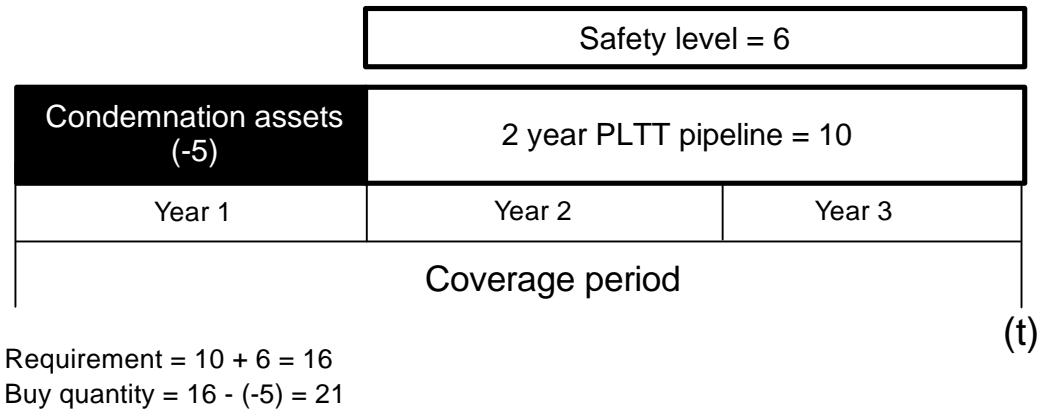

Figure 3-4
Figure 3-4 displays the model's treatment of condemnations for PLTTs shorter than the coverage period. The model treats these items the same as far as estimating a mean pipeline (average number broken) and the resulting spares requirement is concerned, but it changes the method for calculating the buy quantity. For instance, let us assume that the average cumulative condemnations over the 3-year coverage period total 15. Then, the condemnation pipeline for an item with a 2-year PLTT equals 10 and *CondAssets* equals 5. The model calculates the spares requirement on the basis of the condemnation pipeline and says that it equals 16. However, now the model treats the first year's condemnations as negative assets. Thus, in our example, the buy quantity equals the requirement (16) minus the condemnation assets (-5), or a buy of 21 spares.